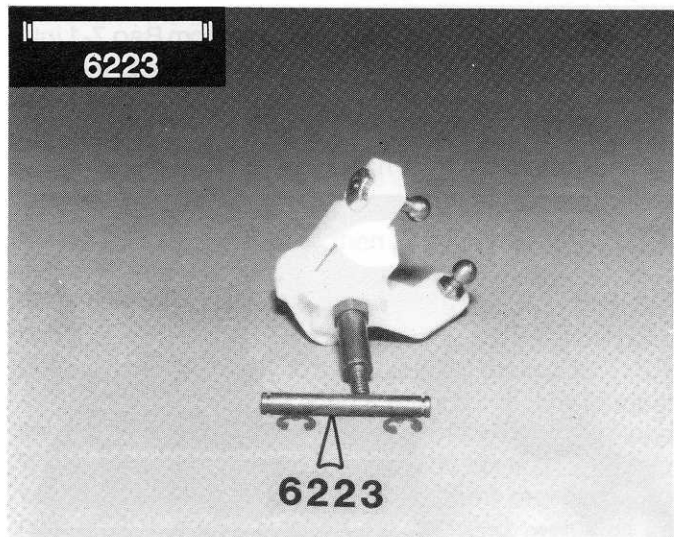

Fig. 5
□ **Figs. 5, 6 & 7** Line up the steering block in the block carrier as shown, and push the #6223 king pin (from Bag 7-1) through. The pin will be loose in the block carrier, but will be snug in the steering block. We want it that way. You might have to lightly tap it in.